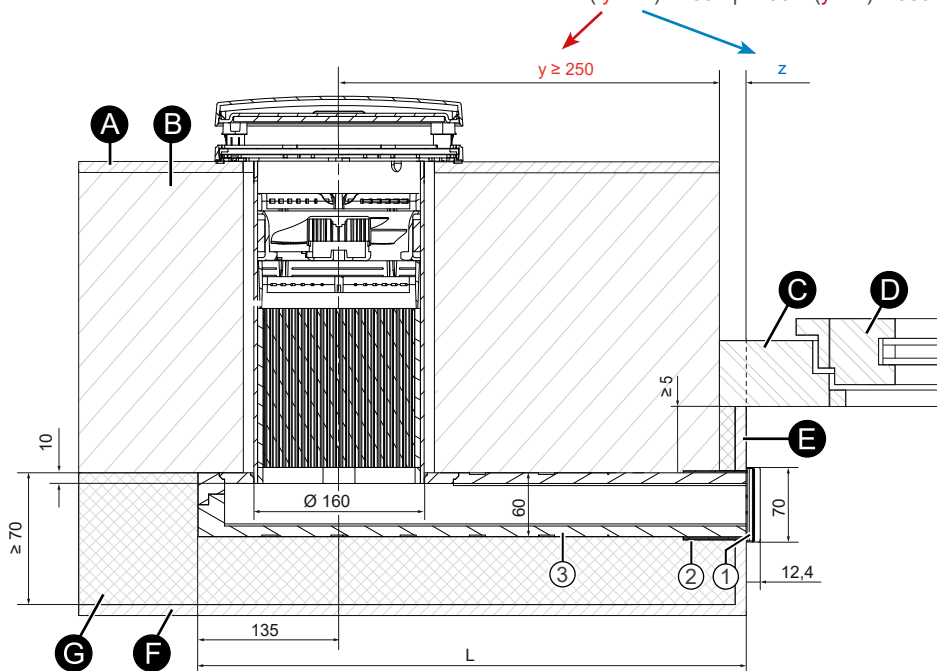

Figure 11: Sectional drawing showing the iV-Smart+ Corner ventilation unit (top view) as an example
2) 160 mm: See sectional drawing (14 f., Fig. 11/12)